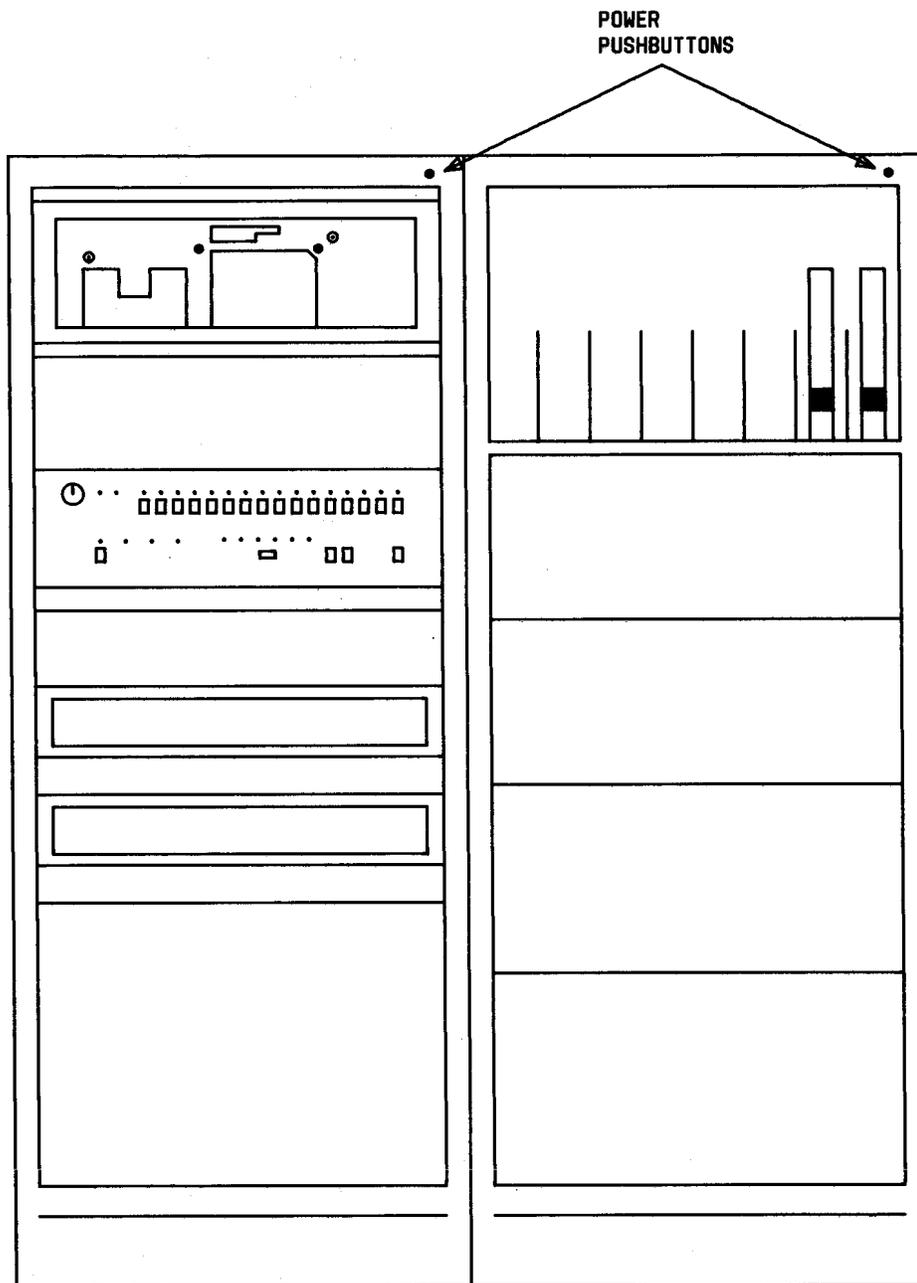

Fig. 1—Data Control Cabinets
2.01 Figure 1 shows the data control cabinets and points out the cabinet power pushbuttons. Depressing these pushbuttons should cause an associated lamp to light. This indicates that power is applied to the cabinets.